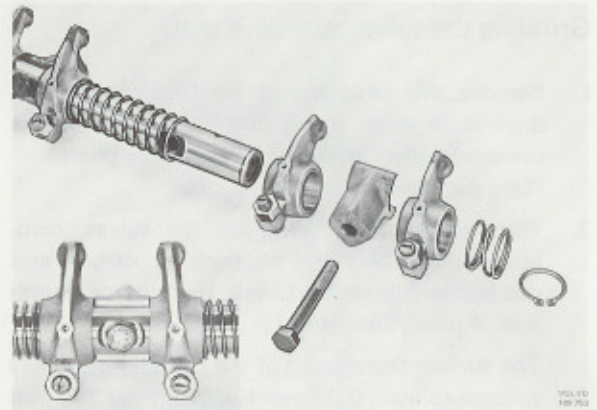

Fig. 21-25. Rocker arm mechanism
2. Assemble the bearing brackets, springs, rocker arms and shaft according to Fig. 21-25. Lock the parts with new lock rings. Note that the rocker arms are of two types, left and right.